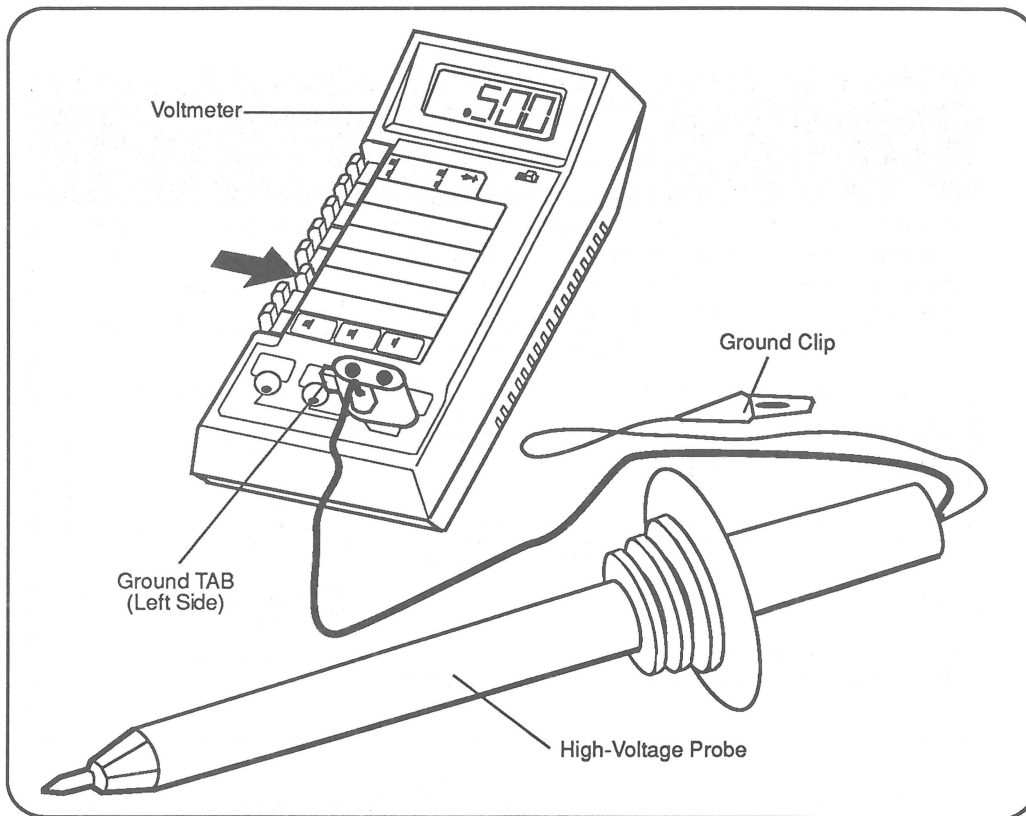

Figure 3-5 Setting Up the Voltmeter and High-Voltage Probe
1. **Figure 3-5.** Switch on voltmeter power, and set the voltmeter to the 2 VDC (or lowest) setting.
2. **Figure 3-5.** Connect the two-pronged connector of the high-voltage probe to the common ground (COM) and voltage (V, Ω) receptacles on the voltmeter. Make sure